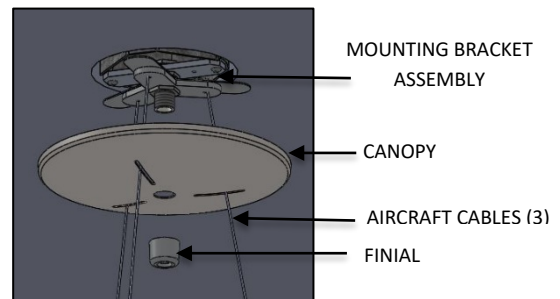

FIG. 25 – CANOPY INSTALLATION
4. Feed the remaining AIRCRAFT CABLES (3) from the MOUNTING BRACKET ASSEMBLY through the slots of the CANOPY. Loosely secure CANOPY to the ceiling by threading the FINIAL to the MOUNTING BRACKET ASSEMBLY as shown below in FIG. 25.